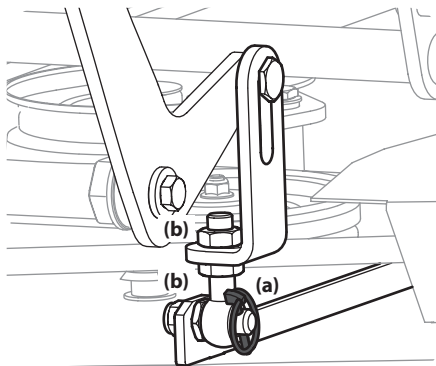

Figure 4-11
3. Adjust the eyebolt (a) at the left front of the deck so that the blade-to-ground height at the right outside blade tip matches that of the left outside blade tip. This is done by loosening the jam nuts (b) on the eyebolt (a) and tightening the upper jam nut (b) to raise the deck and loosening the jam nut (b) to lower the deck. The right outer blade tip height is fixed by the right, front eyebolt (a) so you must adjust the left outer tip to match it. See Figure 4-11.
3. Loosen the jam nuts (b) at the rear left and right of the deck eyebolts (a). Refer to Figure 4-11.